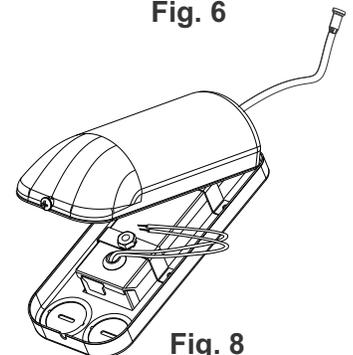

Fig. 8
Step 2. Remove wiring compartment cover. Remove the appropriate knock-out(s) to accommodate the type of electrical supply being used (**Fig. 8**). For flexible metal conduit or non-metallic sheathed cable, remove appropriate round knock-out(s) and connect conduit to junction box with proper connections (not supplied).
Step 3. Strip Supply wire 3/8" and insert each supply wire into appropriate connector. Connect black fixture wire to hot, white fixture wire to neutral, and green fixture wire to ground. (**Fig. 8**).